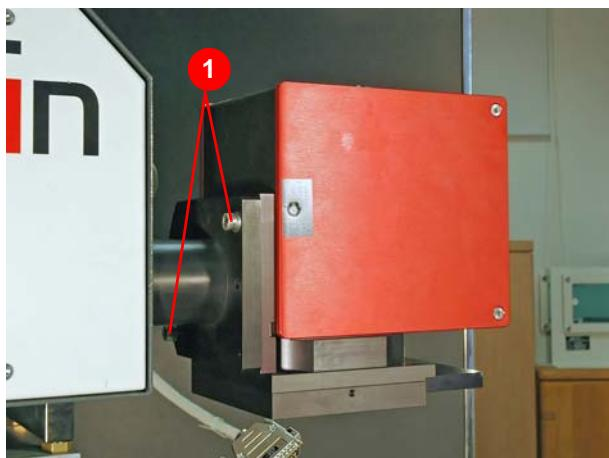

Figure 4.4 Dismantling the galvo head
2. Loosen the fastening screws (1) (Figure 4.4).